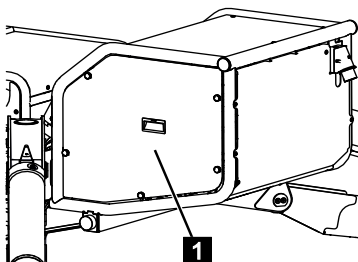

Fig. 170
2. Unscrew and remove the cover (Fig.170/1).